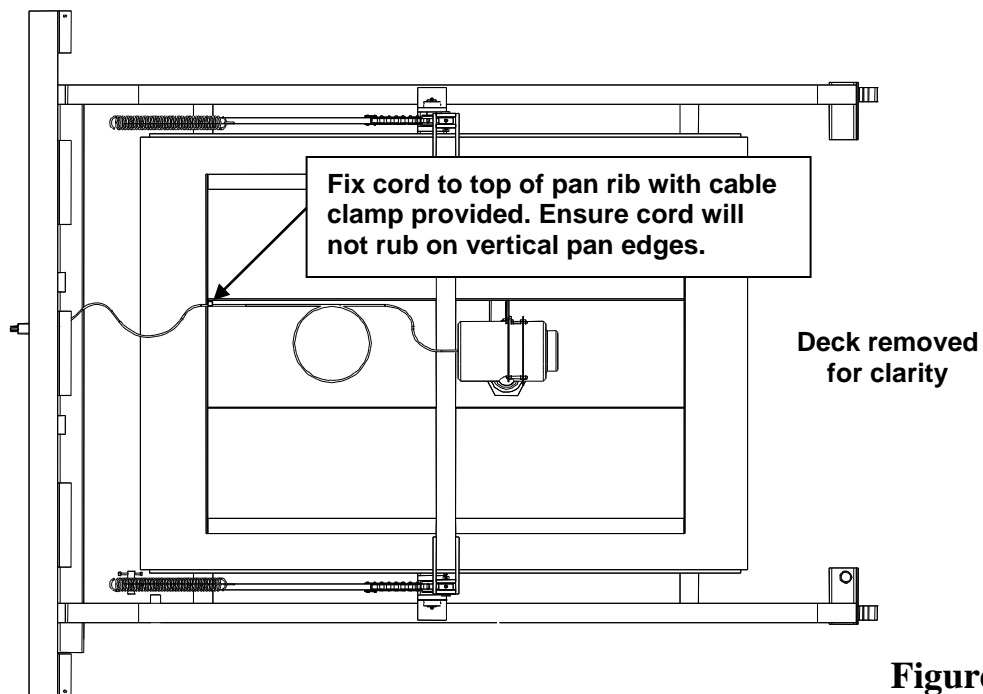

Figure 4
9. Run the fan cord out the **back of the frame** as seen in **Figure 4**. Plug fan motor power cord into the receptacle at the rear of the pit. If the receptacle is on the side of the pit, run the cord around the back of the frame and up along the outside. **Ensure that, when the dock leveler is pushed into place, the cord does not get crushed and that it is clear of the lifting mechanism.**
- b. Check that the dock is even with floor level and that the lip is properly stored in the lip keepers. See Figure 4.